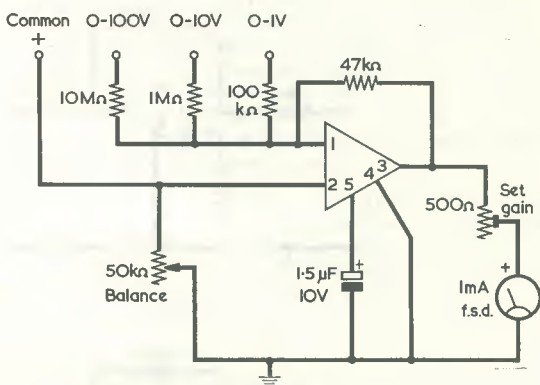

Fig. 8. Differential meter amplifier. This circuit has a sensitivity of 100kΩ per volt
Fig. 8 gives a circuit for a differential meter amplifier. This has a current gain of 100 times, and can be used to increase the sensitivity of a  $1mA$  f.s.d. meter from  $1k\Omega$  per volt to  $100k\Omega$  per volt. On the 0-1V range there is a very small change in balance with the input open or short-circuit (less than  $20\mu A$  change on the  $1mA$  scale) so this range should be used with the balance control set up under short-circuit conditions. Accuracy is limited by the meter movement rather than by amplifier non-linearity.
offset (i.e. difference from earth potential) which may be sufficient to bias the second amplifier into cut-off or saturation. A solution here is to balance the first amplifier in the manner that was shown in Fig. 8. Thus, the input could be applied to terminal (1) of the first amplifier and a variable balance resistor connected between terminal (2) and earth. The balance resistor is adjusted